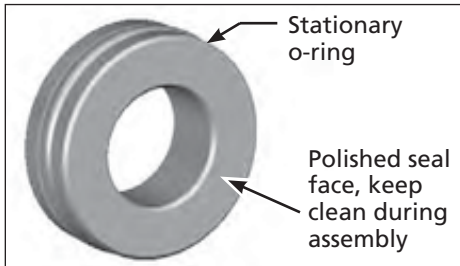

Figure 8
1. Obtain a new mechanical seal rotating assembly and seat (reference numbers 8a and 8b on page 11). Seal parts must be replaced as a set. Do not mix old and new parts. Lubricate seal stationary o-ring with a very small amount of dish soap. Do not allow soap, dirt, grease, or any contaminate on the polished seal face (see Figure 8). Install seal with 2 dimples toward motor or seal will fail.